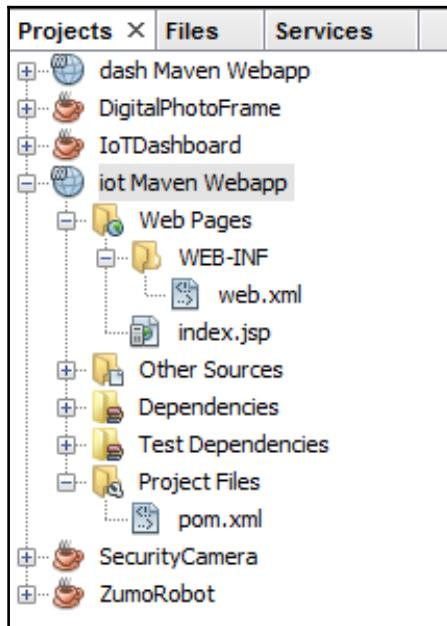

Figure 6-8: Project explorer
9. You can find the newly created `iot Maven Webapp` project in the **Projects explorer** (Figure 6-8). Both `web.xml` and `pom.xml` are very important files that can be used to further configure your project: